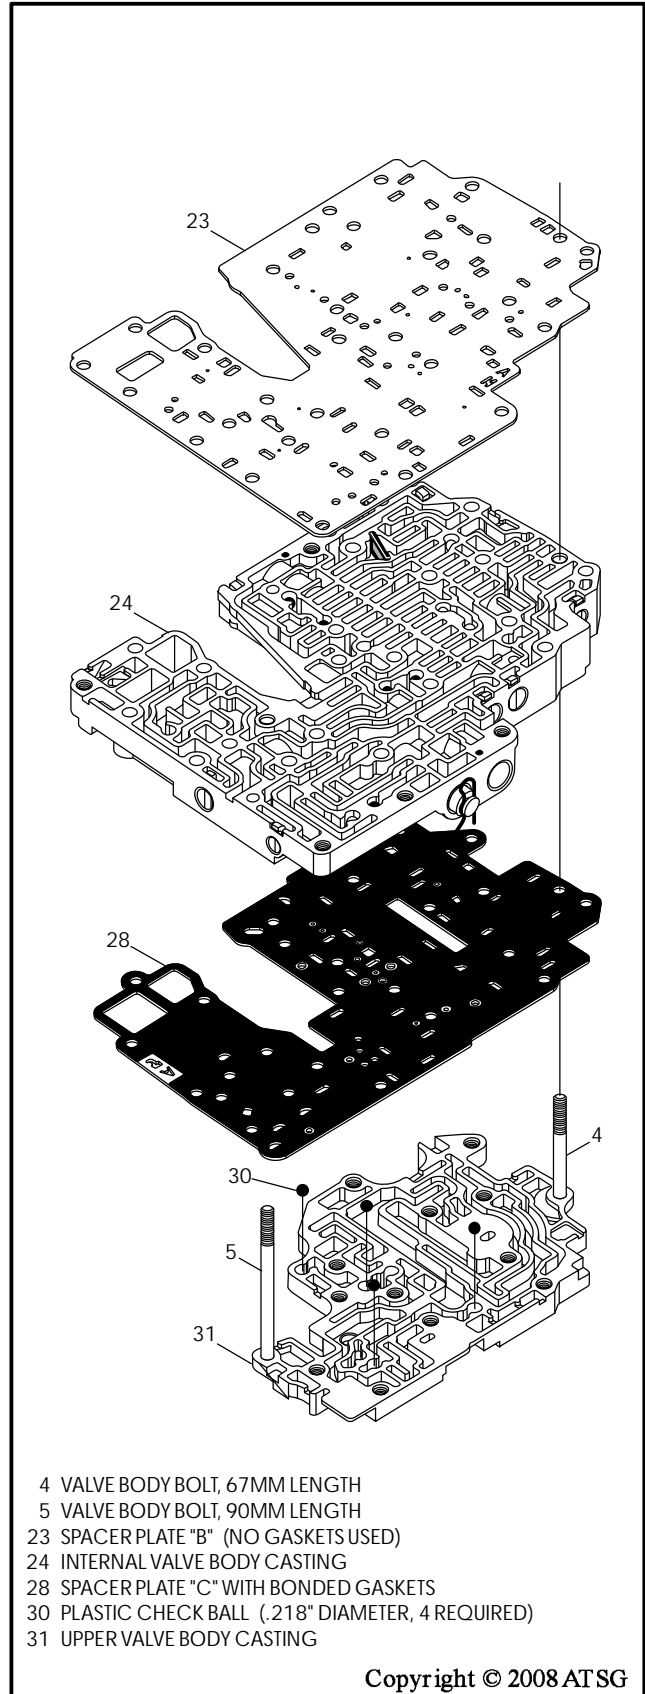

Figure 171
31. Install one 67mm bolt and one 90mm valve body bolt through the upper valve body casting as shown in Figure 171.
32. Lay the assembly on a flat work surface with the worm track side facing up, as shown in Figure 171.
34. Install spacer plate "C" with bonded gaskets over the two bolts and onto the upper valve body, as shown in Figure 171.
35. Install the completed internal valve body over the two bolts and onto spacer plate "C", as shown in Figure 171, and ensure flat screen and check balls are still in position.
36. Install spacer plate "B" over the two bolts, as shown in Figure 171.